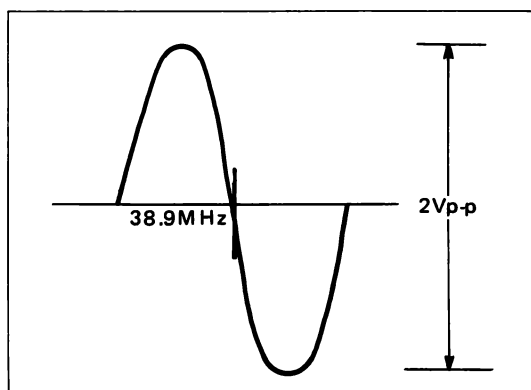

Figure 31.
5. Adjust T172 for response shown in Figure 31.